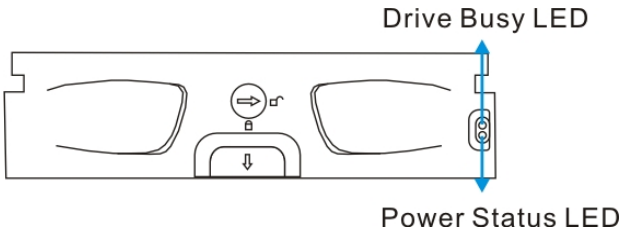

Figure 4-4: Drive Tray LEDs
Two (2) LED indicators are located on the right side of each drive tray. (See **Figure 4-4**) Refer to **Table 4-3** for the LED definitions. When notified by a drive failure message, you should check the drive tray indicators to find the correct location of the failed drive. Replacing the wrong drive can fatally fail a logical array.